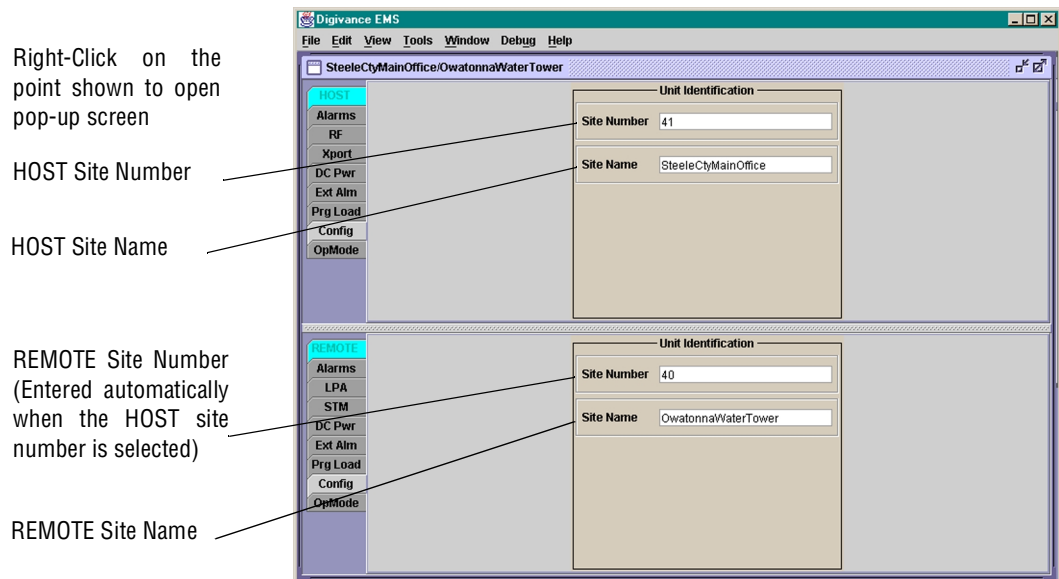
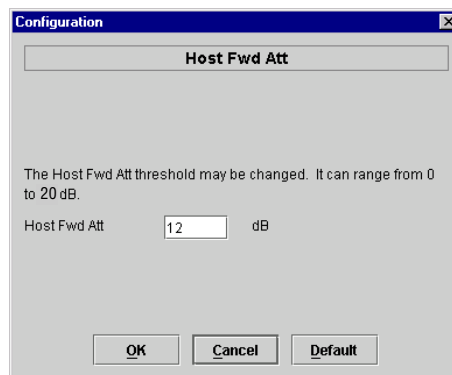

Figure 4-6. HOST and REMOTE Config Displays
Figure 4-9. Host Fwd Att Pop-Up Screen
1. Click on the **HOST Config** tab and on the **REMOTE Config** tab. The **HOST Config** display and the **REMOTE Config** display will open within the EMS main window as shown in Figure 4-6.
2. Right-click on the **HOST Site Number** (see Figure 4-6). The **Site Number** pop-up screen will open as shown in Figure 4-4. Enter any odd number between 33 and 61 and then click on OK to close the screen and make the changes take effect.
3. Right-click on the HOST **Site Name** field (see Figure 4-6). The **Site Name** pop-up screen will open. Enter a unique name for the HOST. The name may be up to 32 characters long and must not contain any spaces. The name may include numbers, punctuation, and upper or lower case letters and must always begin with a letter. Click on OK to close the screen and make the changes take effect.
4. Check the REMOTE **Site Number** field (see Figure 4-6). The REMOTE Site Number does not have to be entered. When the HOST Site Number is entered, the system will subtract 1 from the HOST Site Number and automatically enter the result for the REMOTE Site Number.
5. Right-click on the REMOTE **Site Name** field (see Figure 4-6). The **Site Name** pop-up screen will open. Enter a unique name for the REMOTE. The name may be up to 32 characters long and must not contain any spaces. The name may include numbers, punctuation, and upper or lower case letters and must always begin with a letter. Click on OK to close the screen and make the changes take effect.
2. Right-click on the **Host Fwd Att** section of the display (see Figure 4-6). The **Host Fwd Att** pop-up screen will open as shown in Figure 4-9.